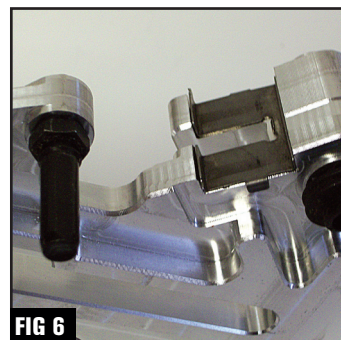

FIG 6
- 9** Install brake pad stop clip. Note: The brake pad stop clip has two tabs on the sides that go over the edges of the cut away for the front of the brake pads that hold it in place. If your does not snap in place it will be necessary to slightly bend the two tabs inward until the stop has a tight fit over the edges of the brake caliper carrier. (Fig 6)